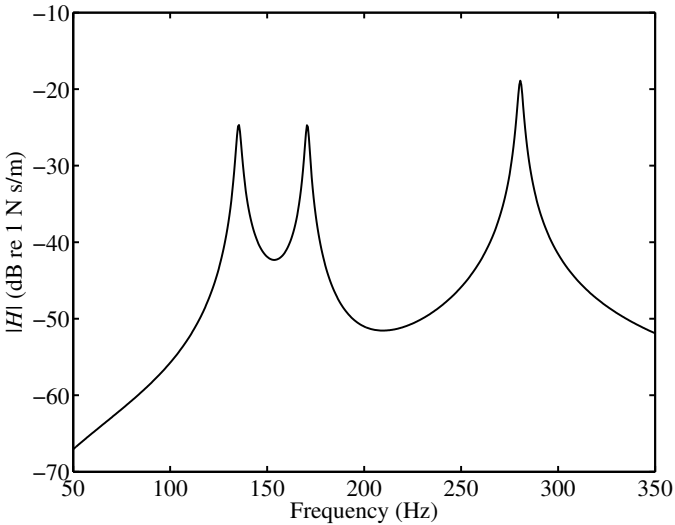
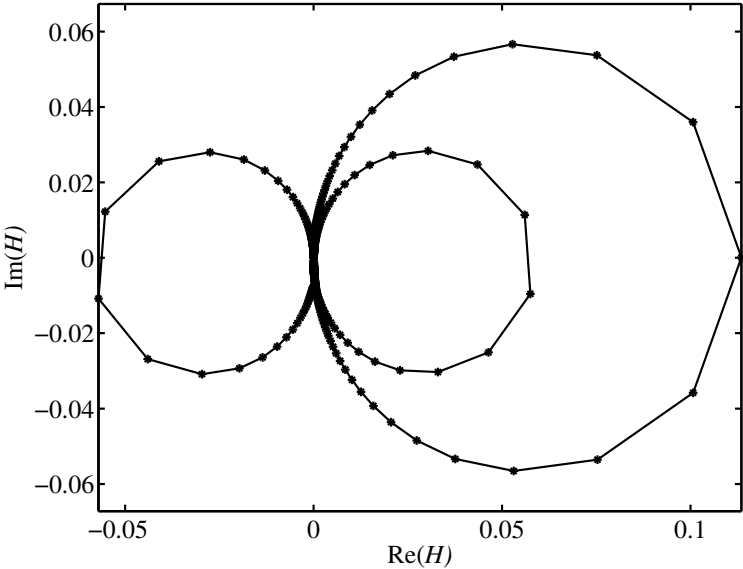

Fig. 1
Fig. 2
Supplementary page: one extra copy of Figs. 1 and 2 (Question 1)
- (b) A measurement has been made of a vibration transfer function  $H(\omega)$  of a structure, with velocity as the output variable. The response in the frequency range of the first three resonances is shown in Fig. 1 in the form of a decibel-magnitude plot, and in Fig. 2 as a Nyquist plot. The frequency resolution of the data is 0.5 Hz.
*An additional copy of Figs. 1 and 2 is attached to the back of this paper. It may be detached, annotated to highlight significant features and handed in with your answers.*
Extra copy of Figs. 1 and 2 for Question 1.